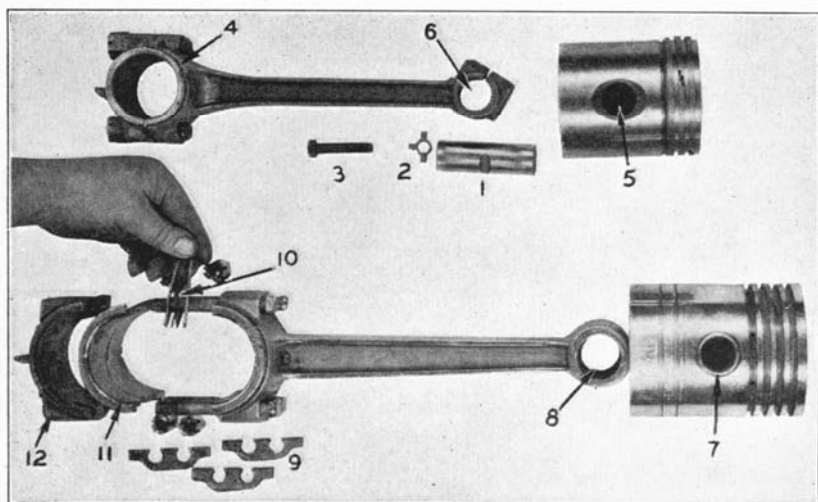

Fig. 13.—Older type of piston and connecting-rod assemblies
Connecting rods may have bearing surfaces at both the top and the bottom (*Figs. 13 and 14*). Wear in the bronze bushing at the top of the connecting rod can be detected by a tapping sound while the motor is running or by looseness when the piston and rod assembly are removed and inspected. This looseness can be corrected by putting in a new piston pin and bushing or an oversized piston pin. Usually the first method is employed. This replacement, which is difficult to make on the farm because of the accuracy of workmanship required, should
holding the bearings in place and preventing them from turning. These shims should be inspected for wear at the place where the bearing fits up against them, and replaced if wear is noticeable. It is customary to use two heavy shims on each side of the bearing with thin shims placed between them (*Fig. 13, item 10*). If the bearing edges that fit against